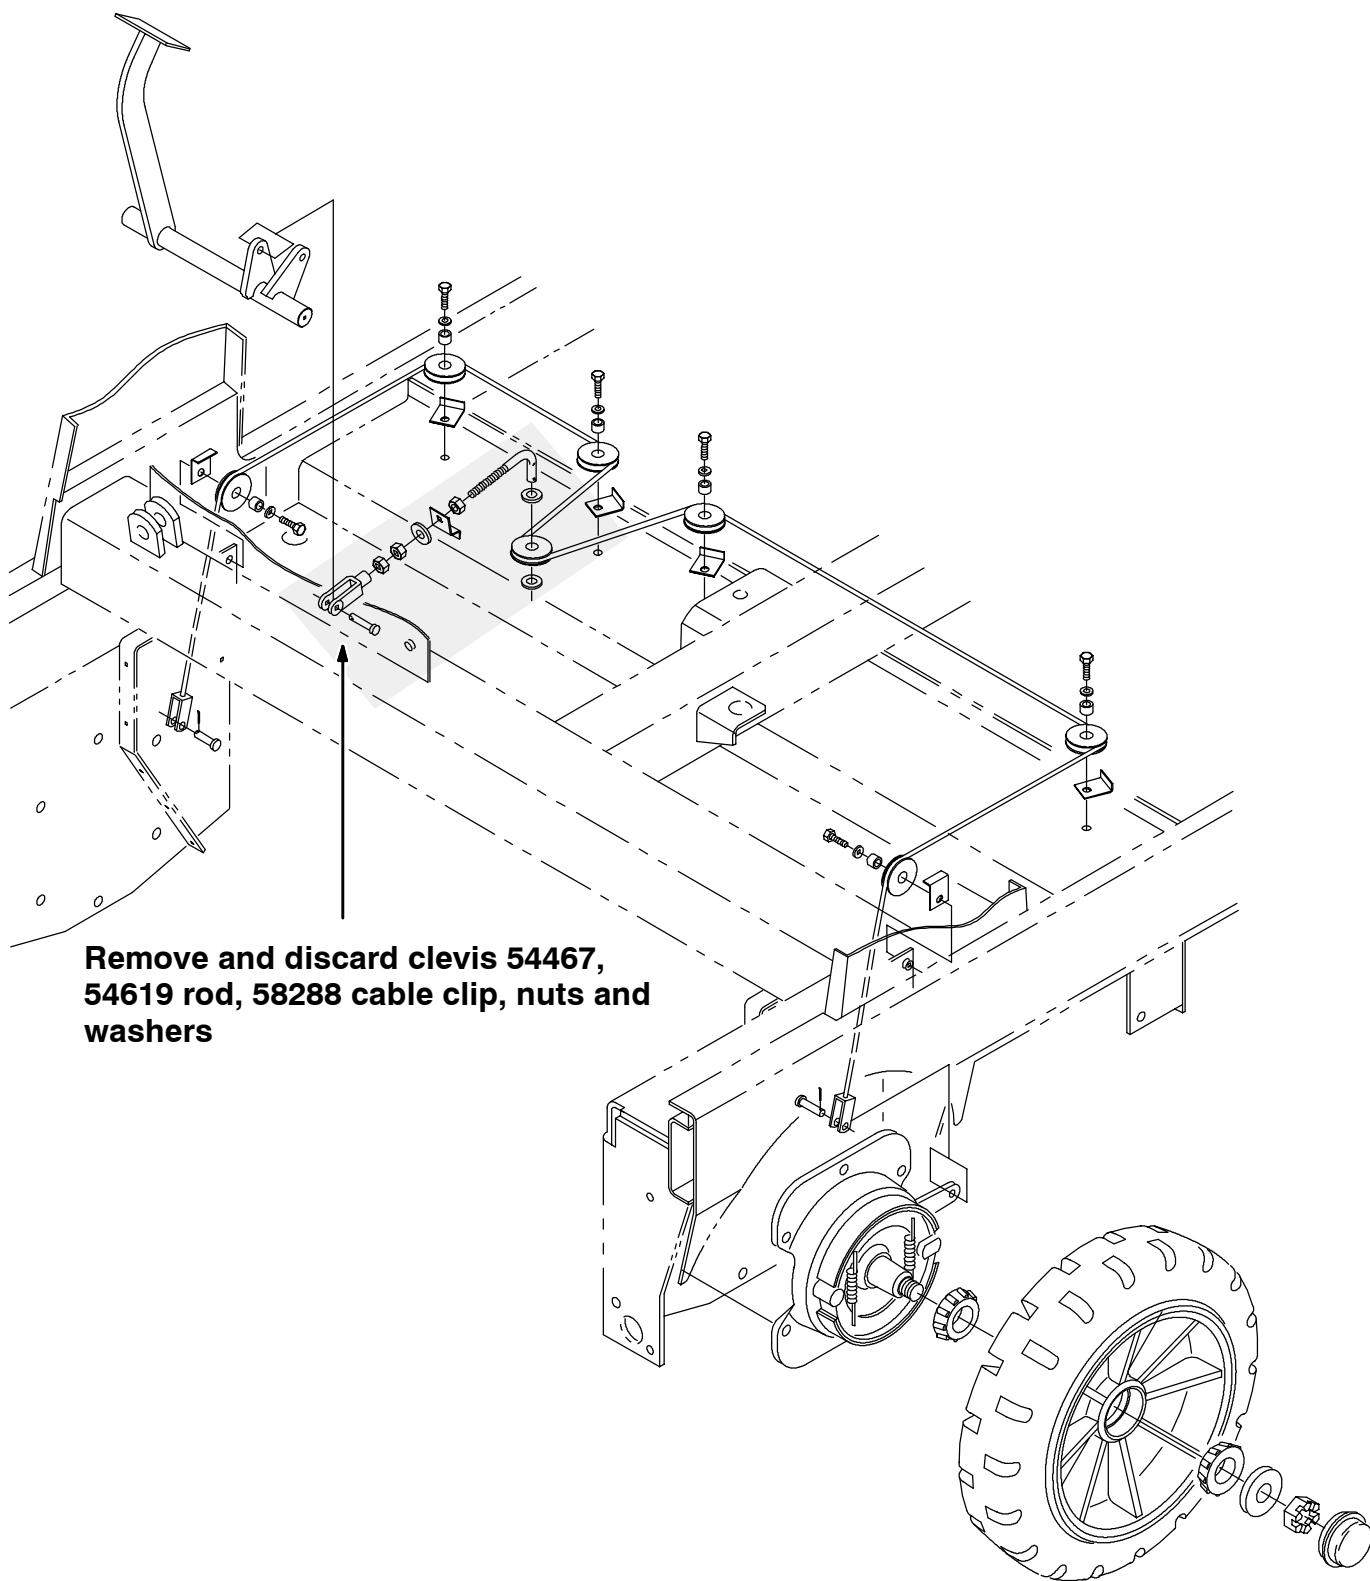

FIG. 2 - OLD BRAKE CABLE CONNECTOR REMOVAL
2. Remove and discard the cable clevis 54467, brake rod 54619, cable clip 58288 with hex nut 39313 and two flat washers 32493. (Refer to FIG. 2)